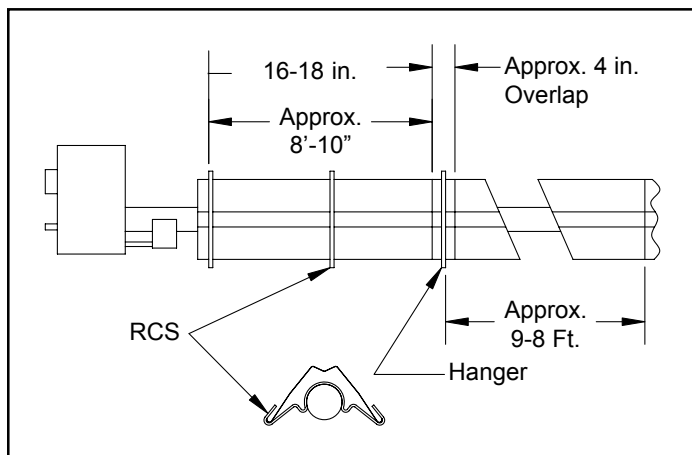

Figure 3-10
1. Mount reflector center support (RCS) at halfway point between hangers (see figure 3-10).